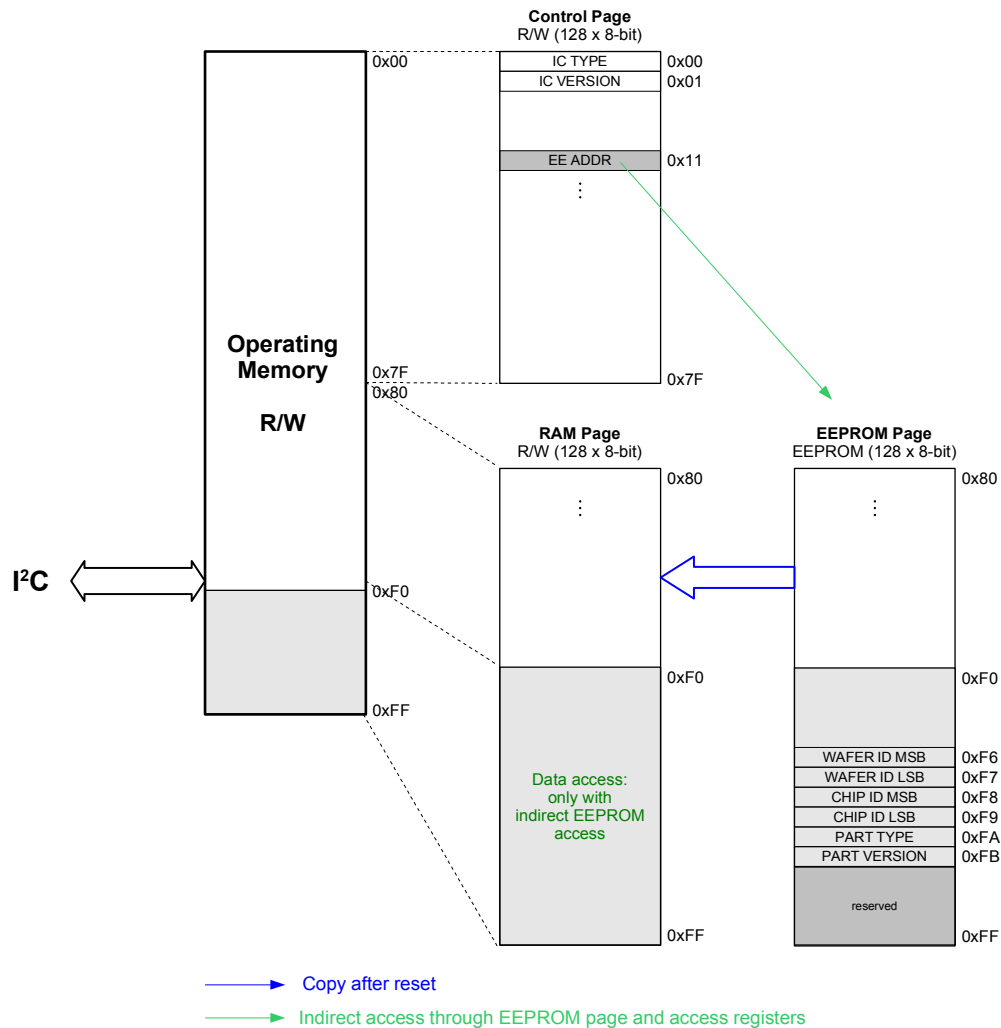

Figure 60: Memory map
The I2C-bus interface allows accessing the RW registers and the programming of the EEPROM registers which store the configuration parameters. It is the only interface through which the configuration registers can be accessed (Figure 60 and Table 31) by the application. It works as a slave device according to the I2C specification (refer to chapter 16.2.) with a transfer rate of up to 400 kbit/s in Fast Mode (FM) or 1Mbit/s in Fast Mode plus (FM+). The I2C master such as an external CPU can set the transfer speed simply by driving the SCL input at that frequency (up to 1MHz), therefore there is no prior register configuration or setting necessary.